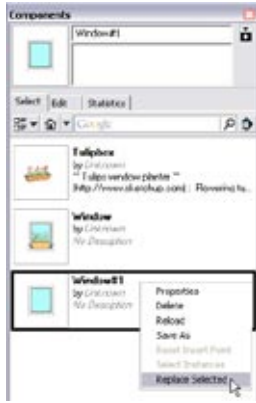

Figure 7-73
- Open the In Model folder of the Components window, where you should see three components: the flower box, the original window with the flower box, and Window#1 (the edited unique component). Right-click on this new component and choose Replace Selected (Figure 7-73).